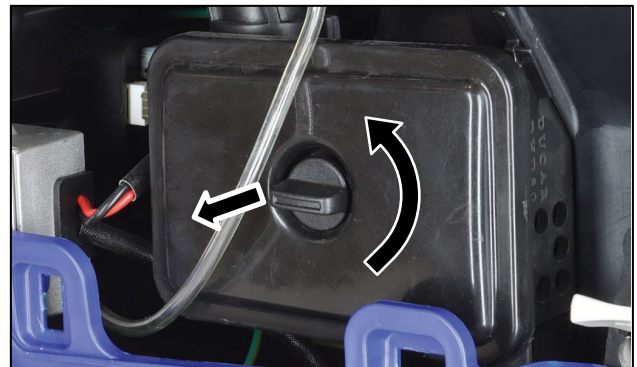

Figure 21 Remove the Air Filter Cover
2. Remove the air filter cover by undoing the central fixing screw (see Figure 21).